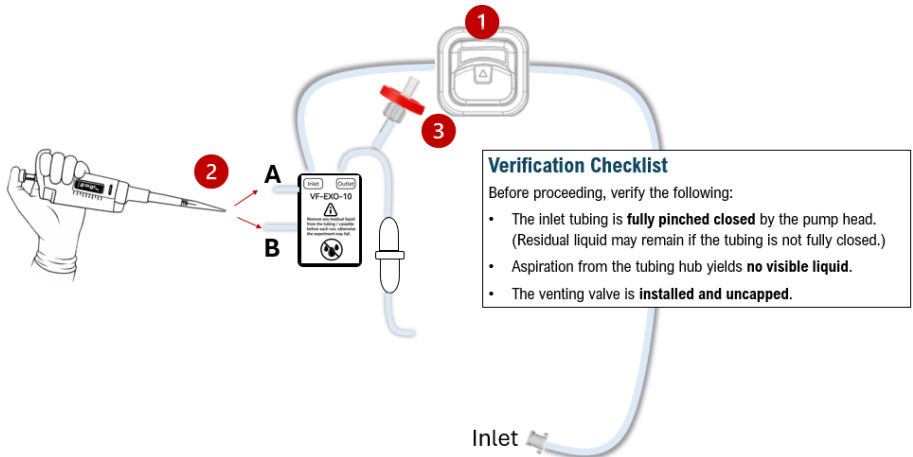

Figure 6 – Emptying tubing hub
**Reminder:** When reusing a process tubing, confirm that the **tubing hub emptying** steps in Figure 6 are complete.
- Using a pipette with a **1 mL tip**, **fully insert the tip into tubing ends A and B to form a seal**, then aspirate any remaining liquid from tubing ends A and B **until no liquid can be withdrawn**, as shown in Figure 6.
- Before automated cleaning, confirm that the **tubing hub emptying** steps in Figure 6 are complete.
- Before beginning Processing, confirm that the **tubing hub emptying** steps in Figure 6 are complete.
Failure to empty the Tubing Hub before each run, as described in Figure 6, " Emptying the Tubing Hub. "	The pre-test may fail, and sample loading may be incomplete or result in excessive elution volume.